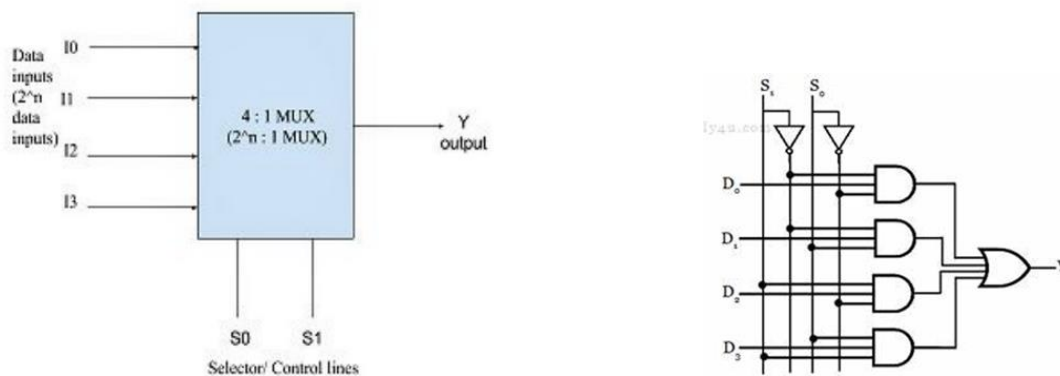

Figure 1: Block diagram of 4:1Mux, 4:1 Mux implementation using Select lines, Internal circuit of 4:1 MUX
1. Place the IC on the breadboard of digital trainer module as indicated in Figure 1.
Theory: Multiplexer (MUX) is a device that connects one of the input lines to the output line depending upon control signal as shown in **Figure 1**. Same is explained through a control switch and internal circuit of 4:1 MUX.